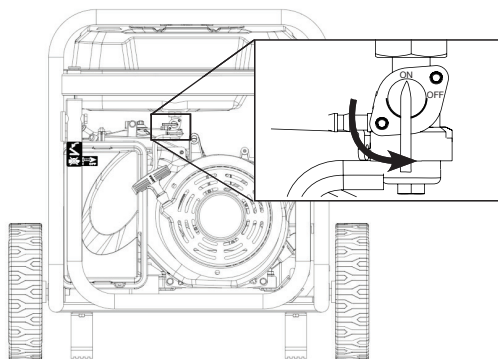

Figure 9 - Fuel Shut Off - ON
4. Move the fuel shutoff valve to the ON position (see Figure 9).
3. Move the fuel shut off valve to the ON position (see Figure 9).